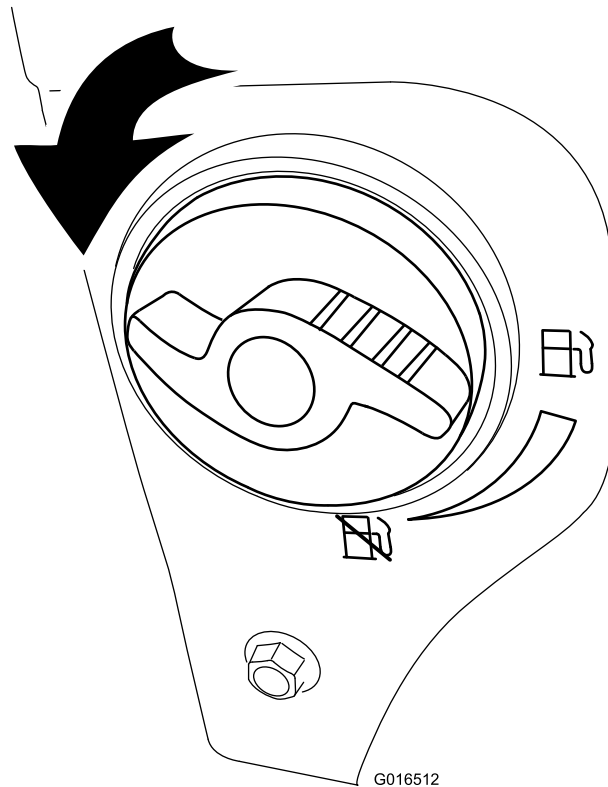

Figure 18
2. Turn the fuel-shutoff valve 1/4 turn counterclockwise to open it (Figure 18).